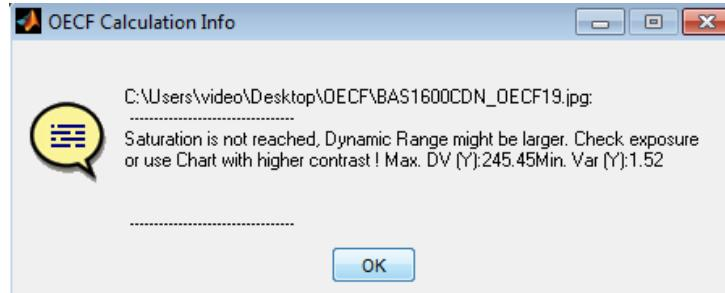

Figure 49. Screenshot of Saturation is not Reached Pop-up
- b. If an error message stating “**Saturation is not reached. Dynamic Range might be larger,**” (Figure 49) increase the Test Chart Illumination by increasing the voltage and performing steps in Sections 7.1.2.5 and 7.1.2.6 until the analysis error message no longer appears.